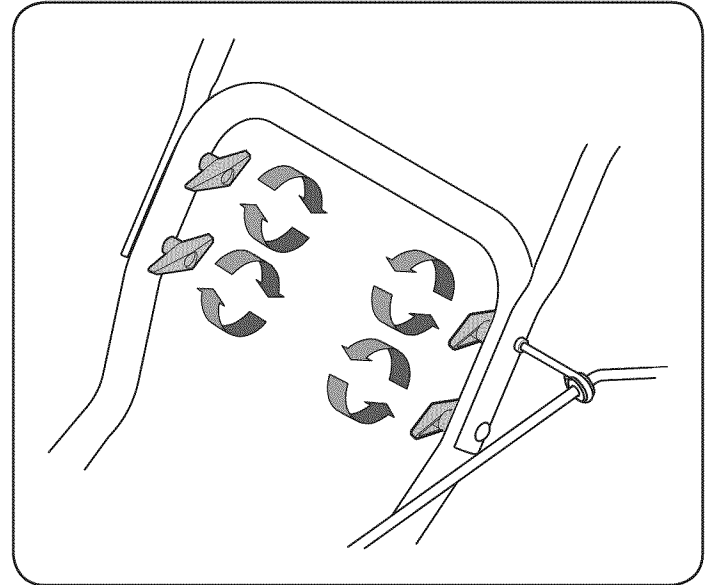

Figure 2
4. Secure the upper handle and lower handle with the two wing nuts, belleville washers, and carriage bolts removed earlier. Tighten the two wing nuts already installed in the upper holes to firmly secure the upper handle and support tubes. See Fig. 2.